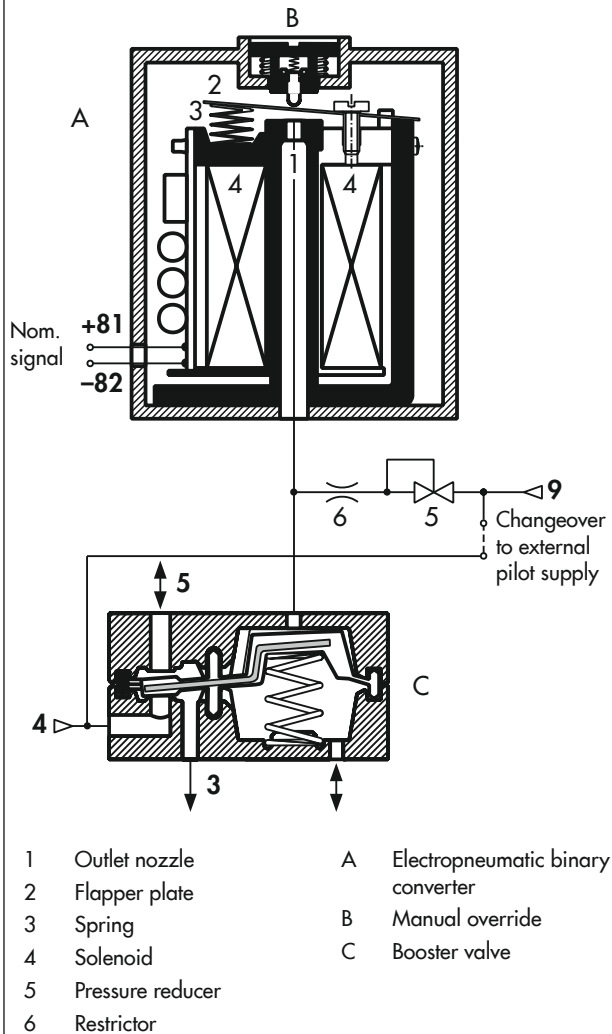

Fig. 4: Solenoid valve with diaphragm switching element as a booster valve (K_{VS} 0.16)
The solenoid valves consist of an electropneumatic binary converter (A) with manual override (B, optional) and a booster valve (C) actuated on one side with return spring (Fig. 4).